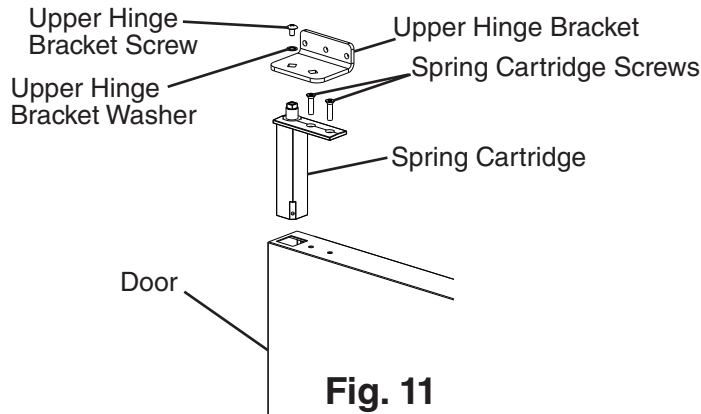
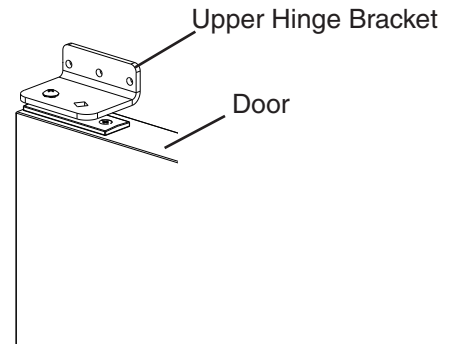

**Fig. 9**
**Fig. 10**
- 7) Rotate the door 180 degrees, to its new orientation. Remove the nylon bearing and filler screws. See Fig. 9. **NOTICE! Care should be taken not to damage the door.** Mount the nylon bearing and filler screws into the holes left by the spring cartridge in the lower section of the door. See Fig. 10.